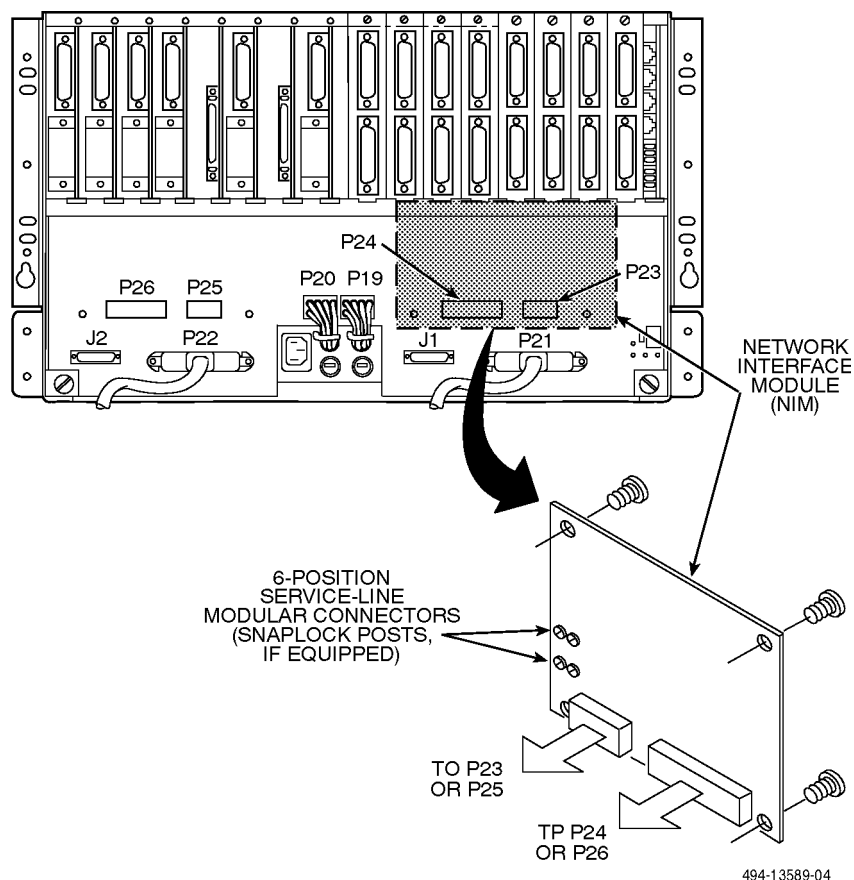

Figure 3-31. Network Interface Module
1. For Slots 1–8, seat the NIM on connectors P23 and P24 on the rear of the carrier (Figure 3-31).
If the NIM is equipped with two 6-position Service Line modular connectors (for use with dial/lease modems), connect the line side of the cable to the proper dial line or NIM modular connector (refer to Figure 3-31). The modular plugs are labeled 1 through 8, and they correspond to the devices in those carrier slot positions. For example, modular plug 1 is wired for the device in Slot 1; for Slots 9 through 16, modular plug 1 is wired for the device in Slot 9.